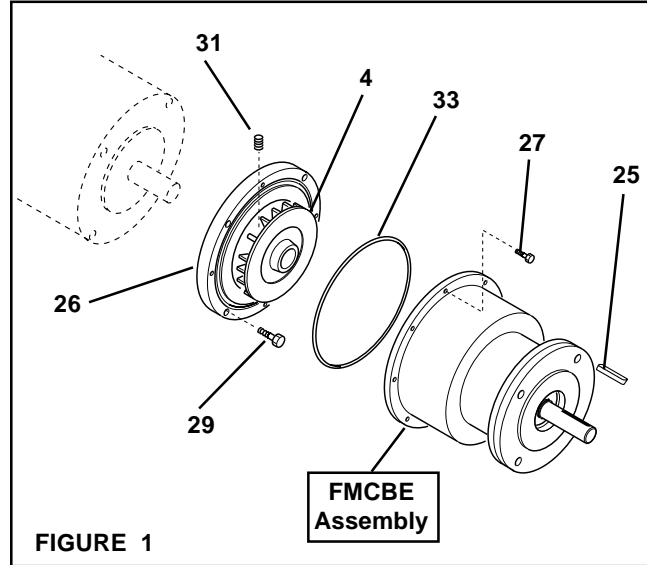

FIGURE 1
2. Slide the Female Pilot (Item 26) and the Drive Disc (Item 4) onto the motor shaft (See Figure 1).
3. Using four Nexen supplied 0.375-16 x 1.000" Hex. Head Cap Screws (Item 29), secure the Female Pilot and the Drive Disc to the motor (See Figure 1).
5. Tighten the Set Screw (Item 31) to lock the Drive Disc (Item 4) onto the motor shaft (See Figure 1).
6. Coat the O-ring Seal (Item 33) and the seal contact surface with a film of O-ring lubricant, then wipe off any excess lubricant (See Figure 1).
7. Slide the O-ring Seal (Item 33) onto the diameter of the Female Pilot (Item 26) (See Figure 1).
8. Slide the FMCBE Assembly onto the Female Pilot (Item 26) and the Drive Disc (Item 4) (See Figure 1).
9. Using eight Nexen supplied 0.250-20 x 0.875" Hex. Head Caps Screws (Item 27), secure the FMCBE Assembly onto the Female Pilot and Drive Disc (See Figure 1).